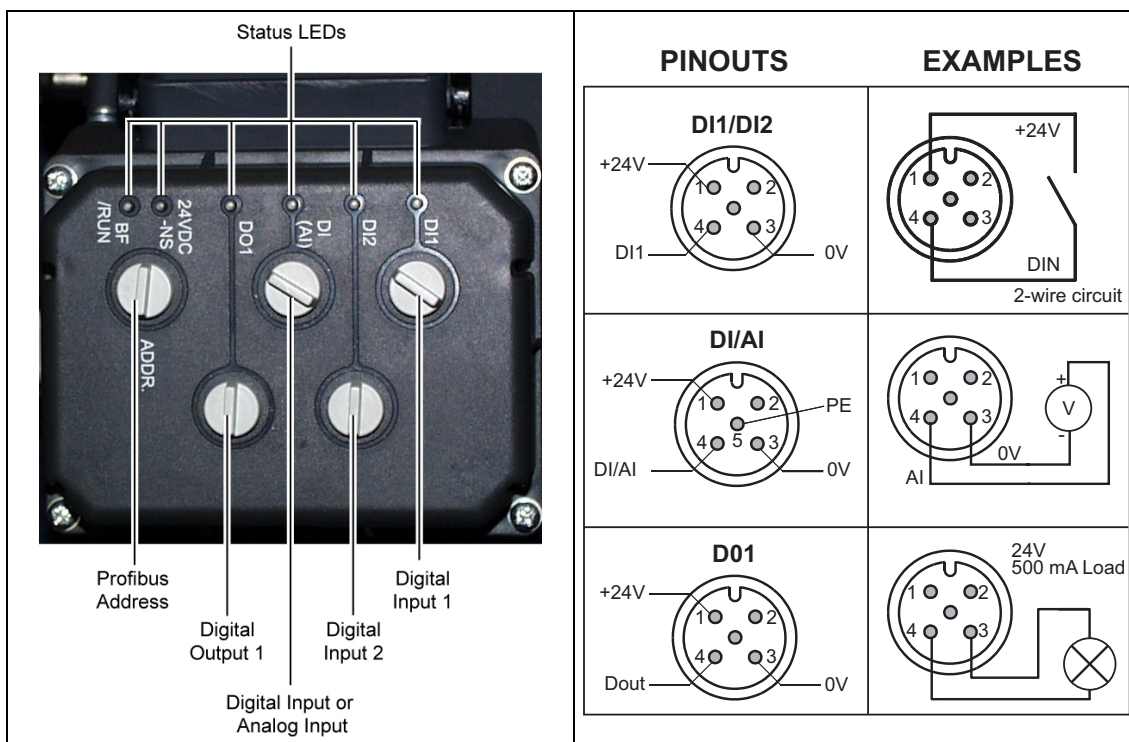

Figure 2-16 ECOFAST PROFIBUS Module Connections
The ECOFAST PROFIBUS Module has been designed to allow the easy connection to external inputs and outputs via terminal connections on the external casing of the module housing. Figure 2-16 shows the location and purpose of all the external connections.
4. Screw the Address Identification Plug into the ECOFAST PROFIBUS module address socket, shown in Figure 2-16.